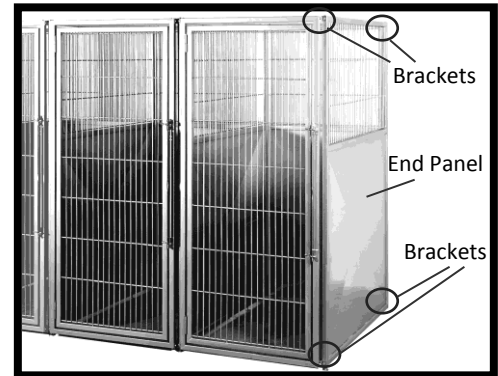

Figure 64: Brackets Holding the End Panel to the Pen System
1. With a 1/2in. wrench, remove the cap screws that hold the end panel to the brackets on the pen system (Figure 64). **Note:** If the pen system is back-mounted to a facility wall, disconnect the panel from the brackets to the wall.